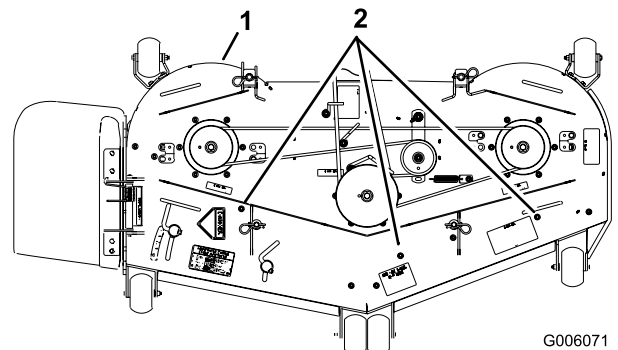

Figure 2
1. Remove the three nuts and bolts in the holes needed to install the baffles (Figure 2).